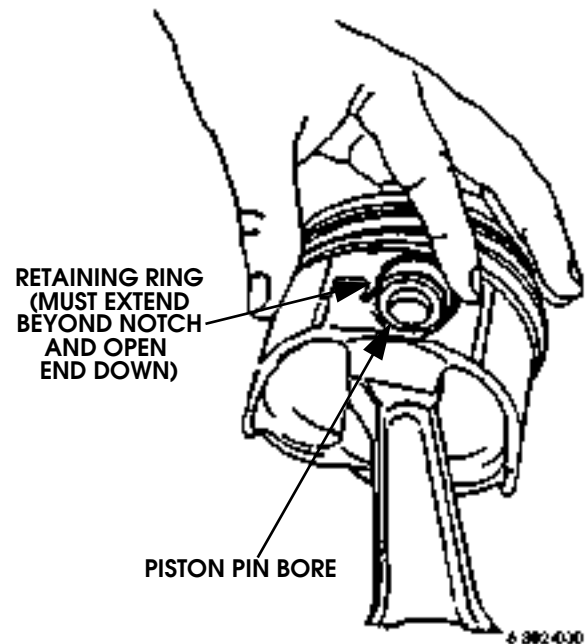

Figure 2-124: Starting Retaining Ring in Piston Pin Bore
- c. Start first retaining ring in piston pin bore (Figure 2-124). Position open end of ring downward toward bottom of piston.